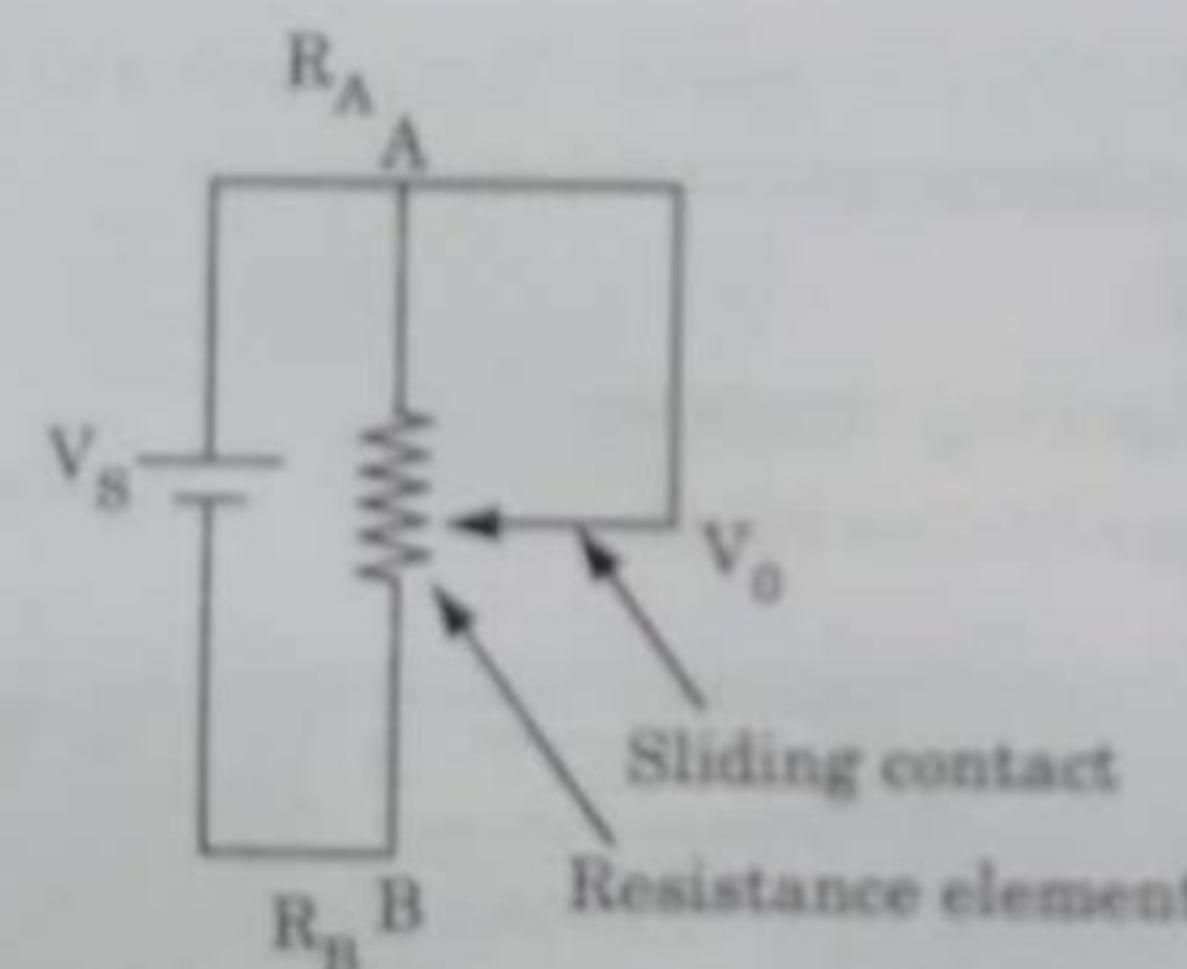

Fig. 1.9.1. Potentiometer : electric circuit.
7. The output voltage (V_A) is measured as shown in Fig. 1.9.1. The output voltage is proportional to the displacement of the slider over the wire.